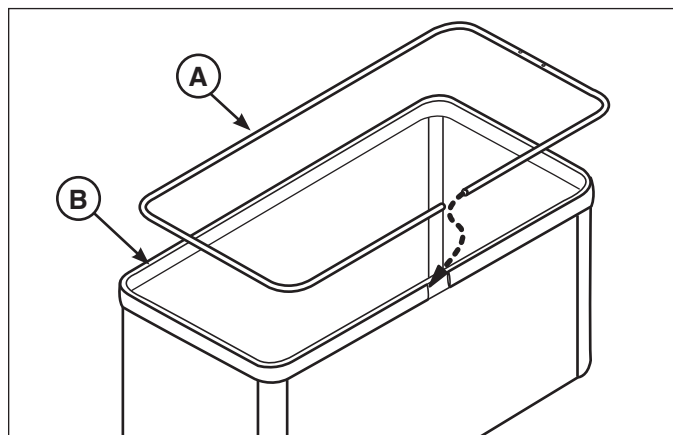

Figure 2
1. Slide the bag rod (A, Figure 2) through the sleeve on the upper edge of the grass bag (B).